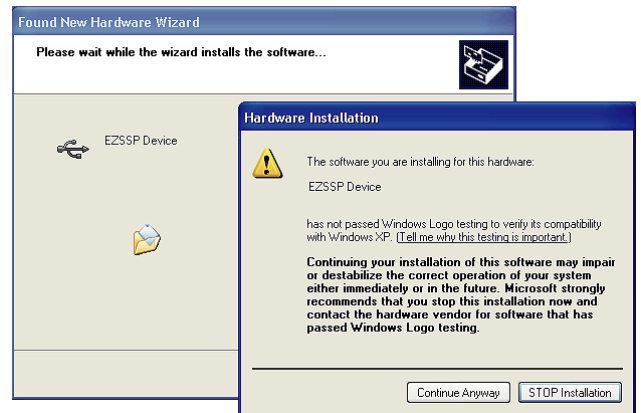

Figure 11.
7. Click **Continue Anyway** when this window (Figure 11) appears.